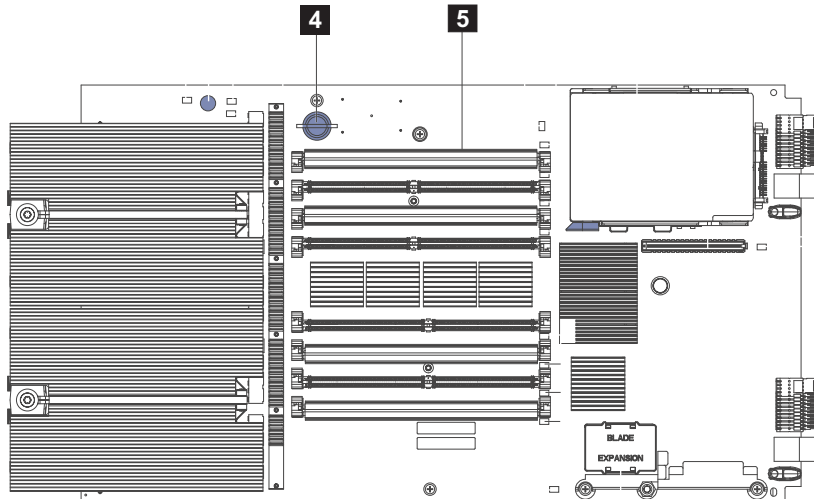

Figure 9. Expansion blade DIMM 1 slot and the expansion blade retention screw
5. To access the expansion blade retention thumb screw (shown by **4** in Figure 9 on page 28), remove the DIMM in DIMM slot 1 (**5**), as described in “Removing a memory module” on page 34.